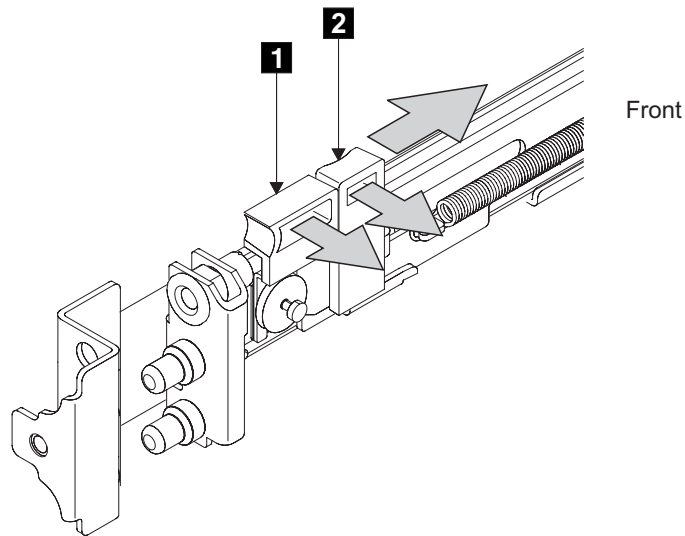

Figure 26. Opening the front latch-lock carrier assembly
3. Gently push the latch lock **2** (see Figure 26 on page 20) away from the rail as you move the latch lever to **1** towards the far end of the rail. The latch-lock carrier assembly slides against the spring tension (see Figure 26 on page 20).